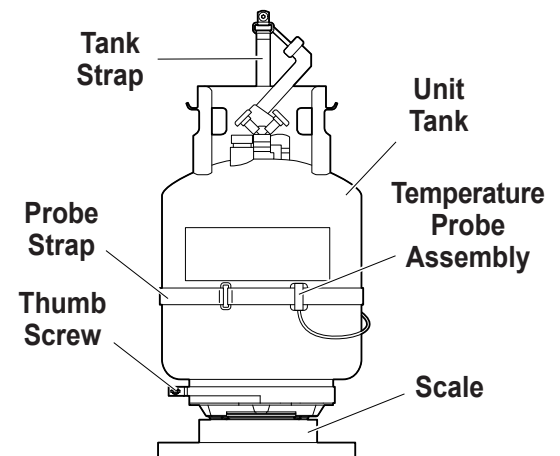

Figure 1
2. Place the tank on the scale in the orientation shown in Figure 1. Tighten the thumb screw on the scale.
3. Loop the tank retention strap through the tank handle and secure the clip back to the strap ring. See Figure 1.
7. Remove the temperature probe assembly and strap from its packaging and install on the tank. The unit will not function properly without the tank temperature probe. See Figure 1 for the correct probe position.